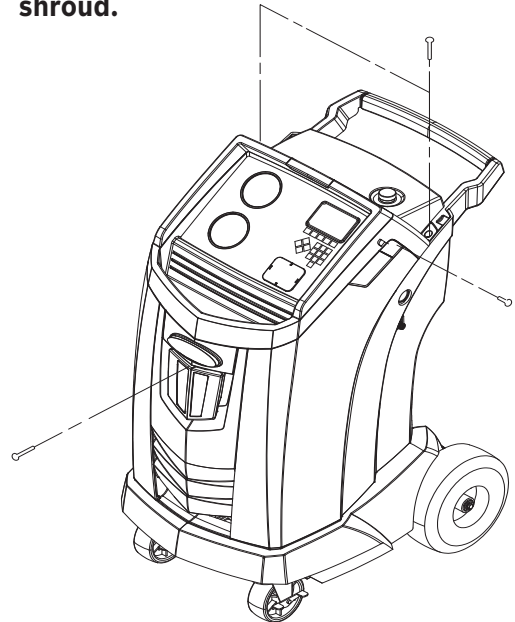

Figure 8
Turn off the machine. Remove the oil bottle. Remove the four screws holding the shroud. See Figure 8.
3. Remove the screws holding the shroud. See Figure 8.